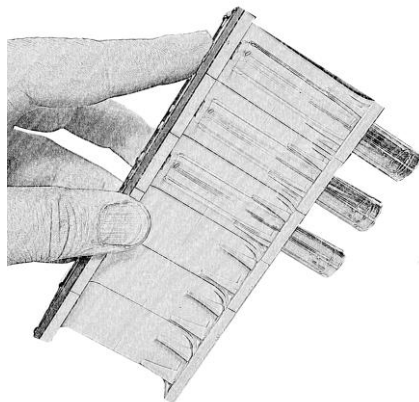

Figure 2 Hand-decanting supernatant using a Magnetic Rack.
4. Incubate for 120 minutes at room temperature (RT) in an orbital shaker. Protect it from light.
6. Collect the BCR-Capture Beads (note that these beads are magnetic) by placing the tubes on a magnetic rack and incubating for 5 minutes. If a magnetic rack is unavailable, centrifuge the tubes at 2500 x g for 5 minutes. Remove the supernatant from the tubes either by hand-decanting (Fig. 2) when using a magnetic rack or by aspiration if centrifugation was used. Exercise caution to avoid disturbing the microspheres and ensure that no more than 100 μ L of supernatant remains in the tube.
10. Collect the sandwich complex (BCR-Capture Beads bound to the fusion protein and Detector Antibody) by placing the tubes on a magnetic rack and incubating for 5 minutes. If a magnetic rack is not available, centrifuge the tubes at 2500 x g for 5 minutes. Remove supernatant from tubes by hand-decanting (Fig. 2) or by aspiration. Remove the supernatant from the tubes either by hand-decanting (Fig. 2) when using a magnetic rack or by aspiration if centrifugation was used. Exercise caution to avoid disturbing the microspheres and ensure that no more than 100 μ L of supernatant remains in the tube.